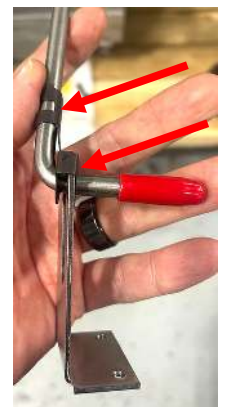

Figure 12
27. Attach the provided bracket and clevis clip to the reset rod with the handle positioned to the right (see Figure 12).